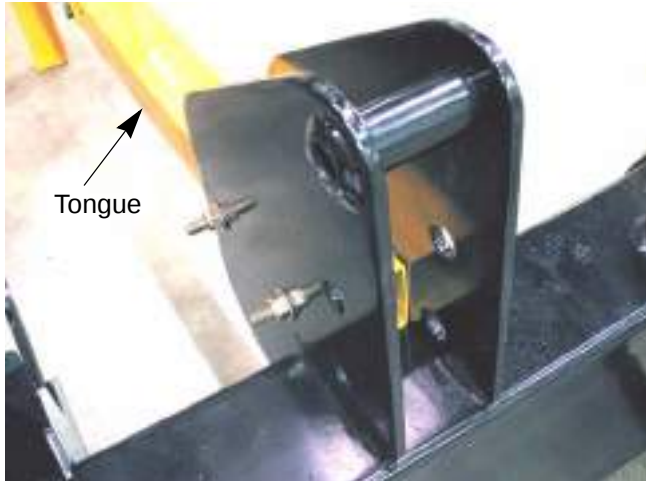

Figure 7.5
16. Remove the two nuts and bolt that hold the tongue to the tank using a pair of 9/16" wrenches. See Figure 7.5.